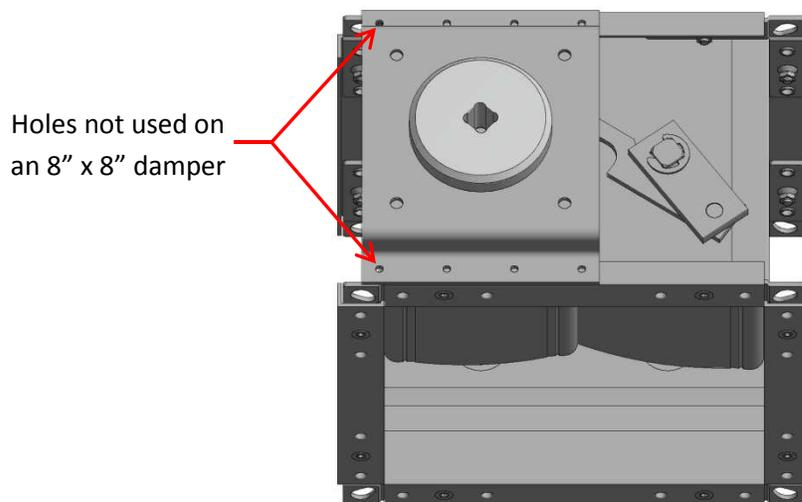

Figure 8: Only Six Holes Used on an 8" x 8" Air Damper
4. Once the bracket is in place, put the 5/32" drill bit in the drill. The eight holes on the damper mounting bracket are also 5/32" and will be used as a guide for the drill bit. Spin the drill a few times in each of the eight holes to mark the center (if mounting on an 8" x 8" damper, only six of the holes in the bracket will be used as shown in Figure 8). Next, remove the bracket and the coupling or alignment tool. Still using the 5/32" drill bit, drill eight holes through the lip of the damper at the eight marked positions.